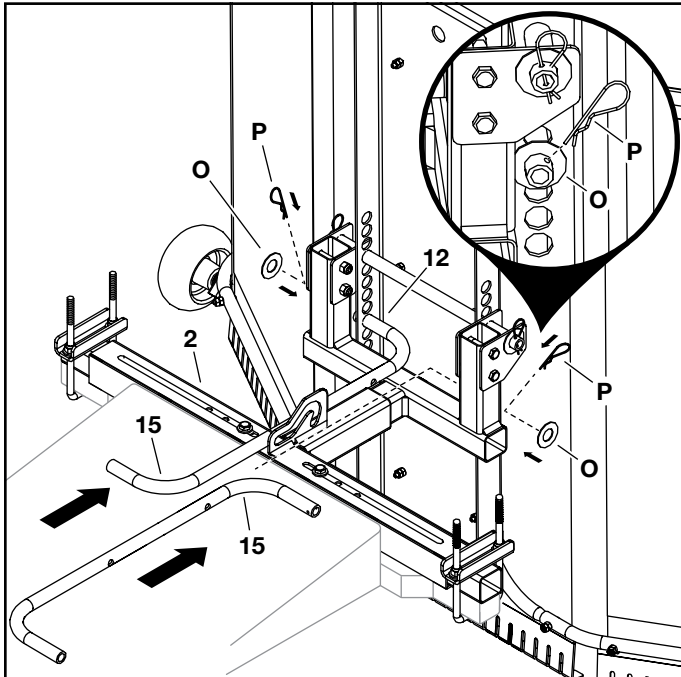

FIGURE 15
STEP 15: (SEE FIGURE 15)
- With a push tube (15) level to the hitch mount assembly (2), insert the uncapped end of the push tube into the bulkhead (12) hole at that height.
- Secure each push tube to the bulkhead using a washer (O) and hair cotter pin (P).